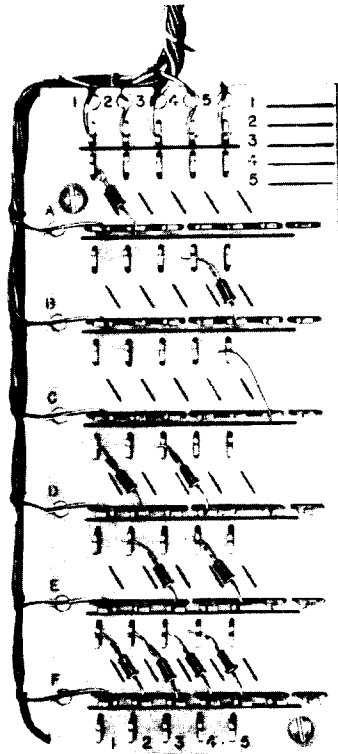

Fig. 1—1A1 Matrix Block—Typical Diode Installation
**1.01** This section provides identification, installation, wiring, and maintenance information for the 1A1 Matrix Block when used in key telephone systems KTSs to provide for diode control of station audible signals (Fig. 1).